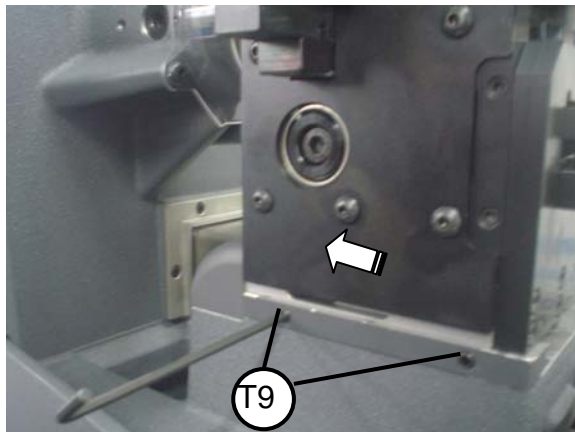

Fig.28
- 4) **Insert the automatic feeder:** Insert the automatic feeder as far as it will go and tighten the setscrews (T9) to fix the feeder in place (Fig.28)..